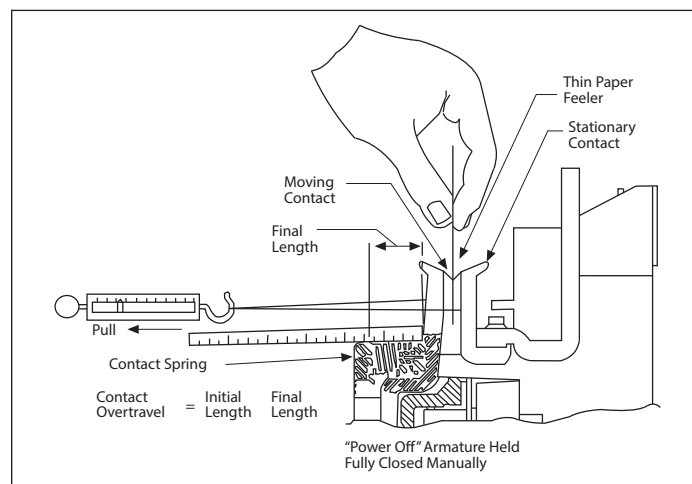

Figure 9. Final Contact Force And Spring Length Measurement
- Final force 9 to 10 pounds (**Figure 9**)